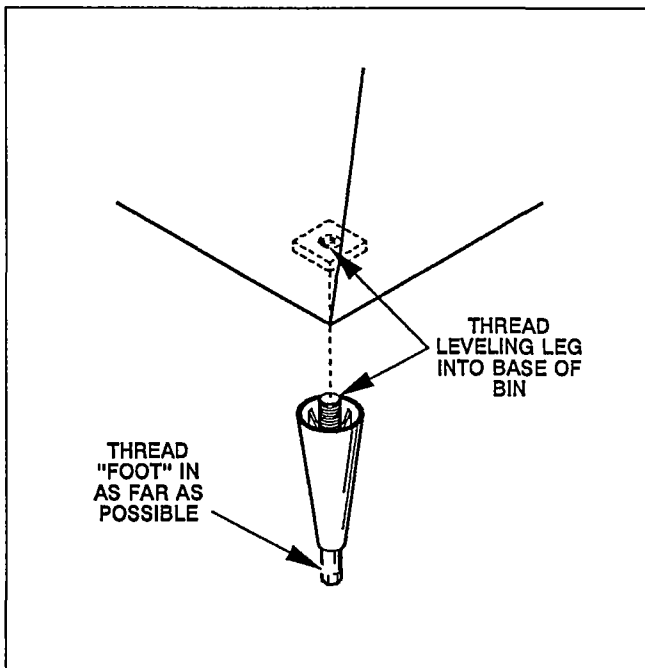

FIGURE 1. LEG INSTALLATION
- e. Screw the leveling legs onto the bottom of the bin and screw the "foot" of each leg in as far as possible, Figure 1. Set the bin upright.